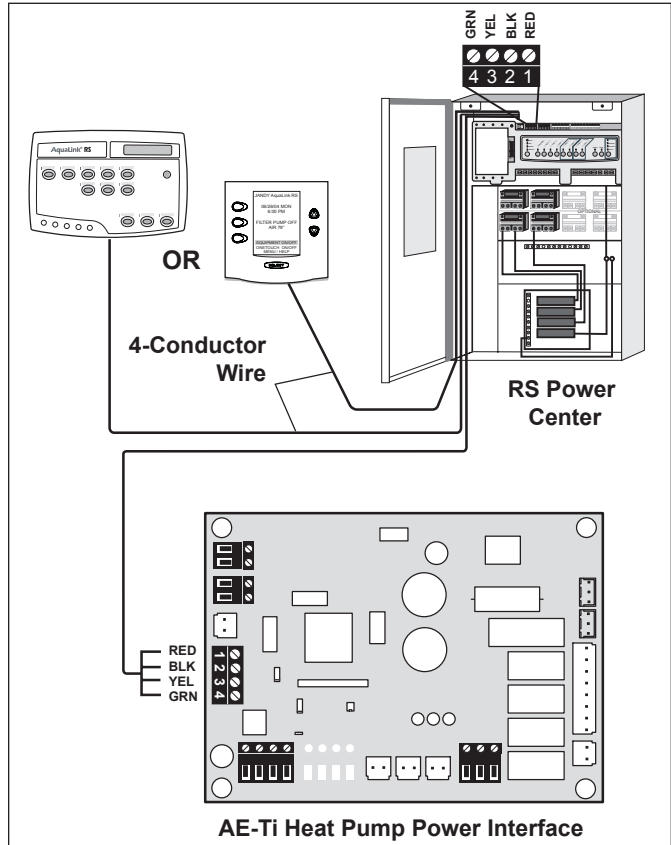

Figure 14. AE-Ti Heat Pump Connection to Power Center
1. Confirm the AE-Ti heat pump and AquaLink RS software revisions are compatible (see Figure 14).